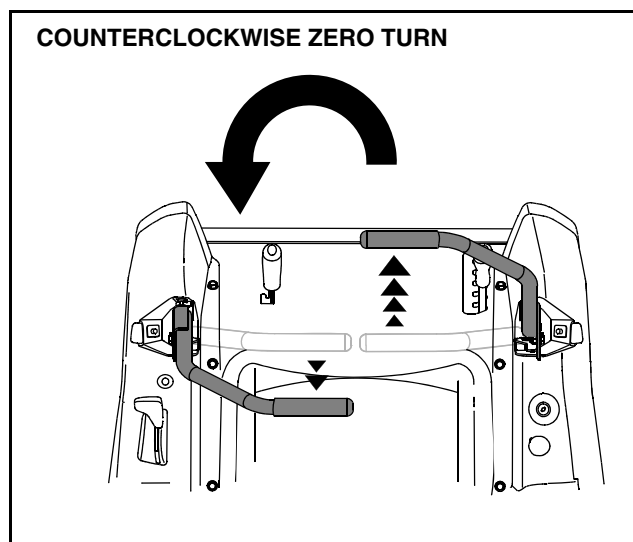

Figure 19
- To turn counterclockwise, move the right control lever forward while simultaneously moving the left control lever rearward. See Figure 19.